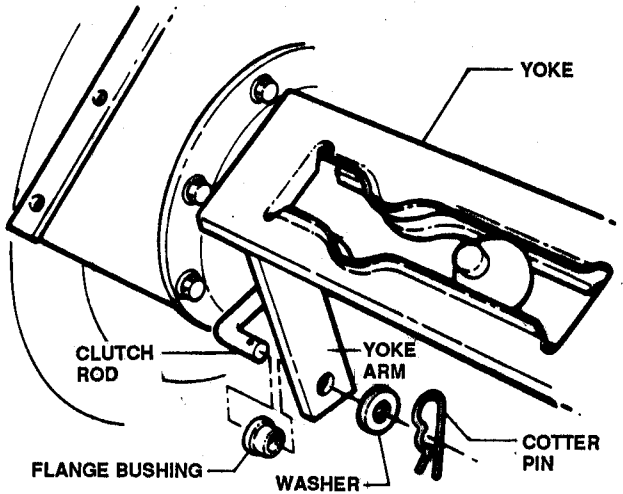

FIGURE 4.11
- F. Remove Cotter Pin, Washer and slide Clutch Rod out of Yoke Arm Bushing. Note position of Yoke Arm Bushing Flange. Refer to Figure 4.11.